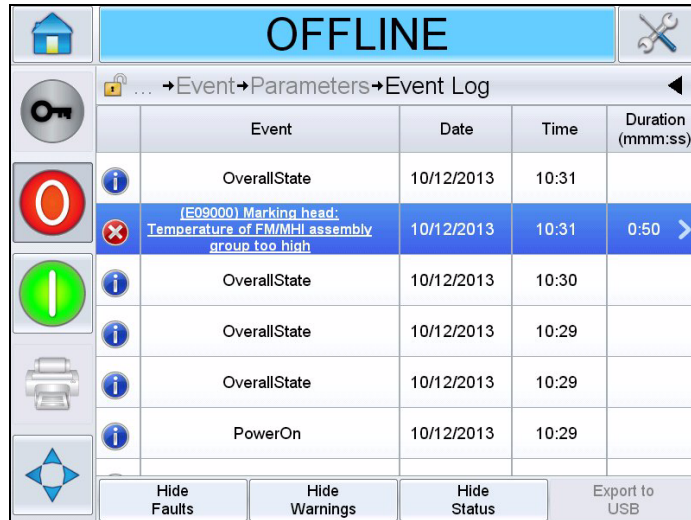

Figure 6-7: Event log
Touch **Go to Event Log** to view *Event log* page (see Figure 6-7 on page 6-11). You can also view this page by navigating through *Tools > Diagnostics > Printhead*.
- a. Navigate to *Tools > Diagnostics > Printhead > Event Log* (see Figure 6-7 on page 6-11).